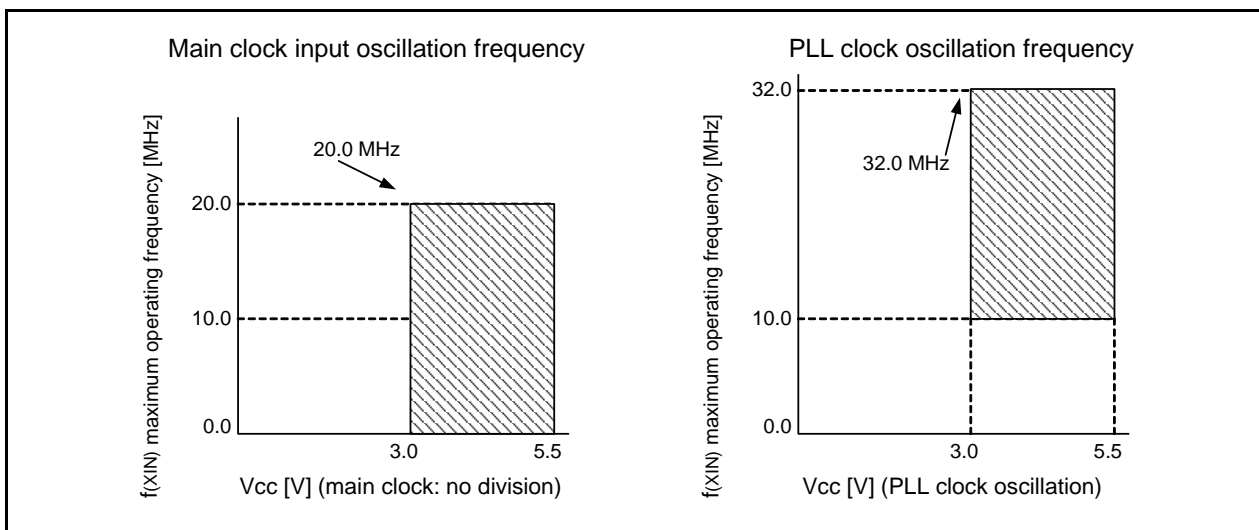

Figure 5.1 Main clock input oscillation frequency, PLL clock oscillation frequency
- Refer to Figure 5.1 "Main clock input oscillation frequency, PLL clock oscillation frequency" for the relationship between main clock oscillation frequency/PLL clock oscillation frequency and supply voltage.